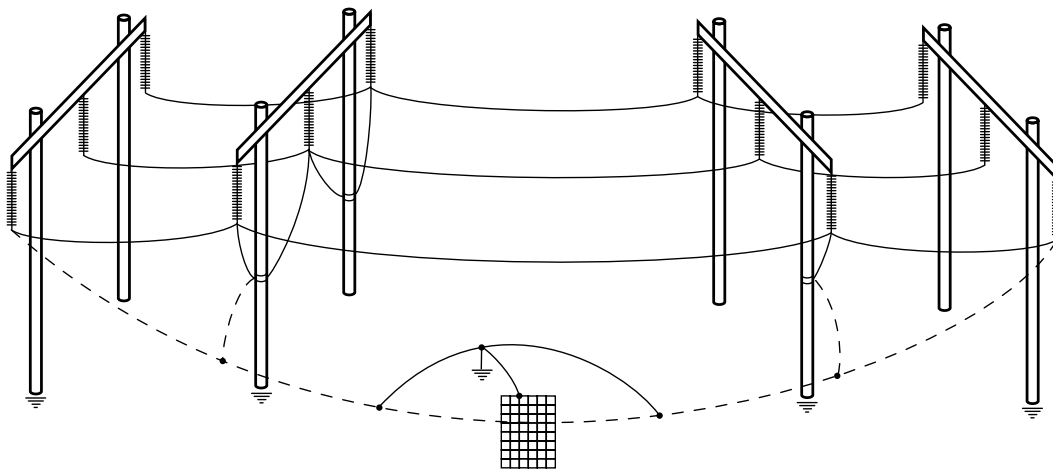

FIGURE 10.10
- (1) Bond all conductors together, including OGWs when applicable, and bond them to ground as near to the work-site as practicable.
- (2) Install a ground on the damaged conductor or OGW at each structure from which it is to be lowered. Continuous grounding must be in place until the conductor or OGW is reinstalled.
- (3) Install a ground rod and bond it to the metallic work platform if one is used. Also install ground cables from the ground rod (using a hotstick) to each side of where the conductor or OGW is to be cut or spliced. (See Figure 10.10.)